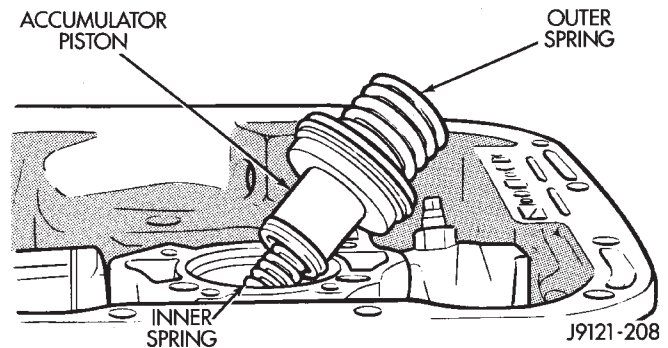

Fig. 100 Accumulator Piston And Springs
(11) Remove accumulator piston and inner and outer springs (Fig. 100).
(12) Remove pump oil seal with suitable pry tool or slide-hammer mounted screw.